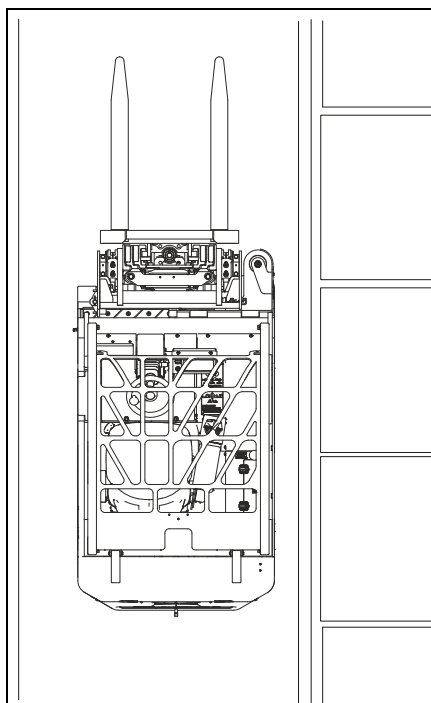

Figure 4-22: Removing the Forks
14. When empty forks clear the rack completely, continue pivoting the mast and shifting to the right until the load is centered to the truck (the normal driving position). **See Figure 4-22.**